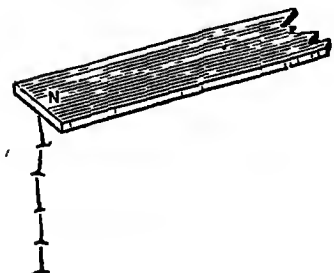

FIG 134
**A magnetic chain**—If a number of pieces of iron be attached to a magnet a magnetic chain is formed. If the pieces be small rings of iron, the form of the chain is more apparent. A chain is readily formed with small iron nails (fig 134). If attached to the N-seeking pole as in the figure, the point of each is a S-seeking pole, and the head a N-seeking pole.